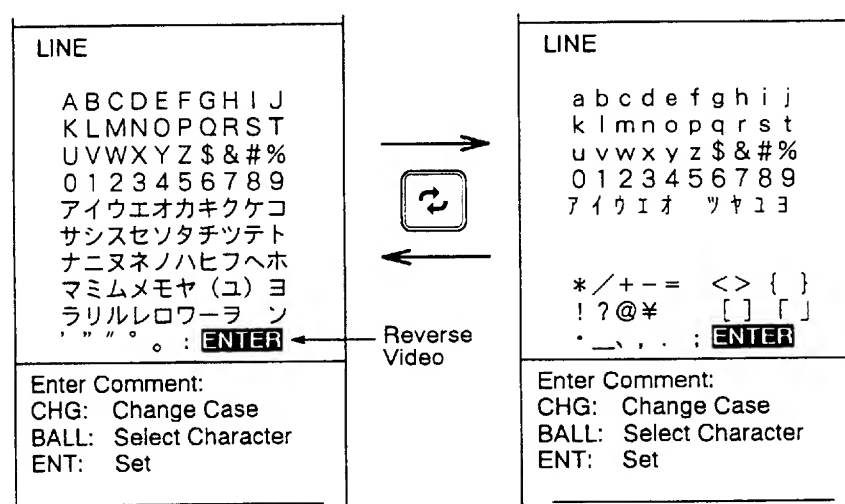

Figure 1-22 Characters available for comment
- 3) Press **ENT**. Your display should show a screen of upper case letters as shown in Figure 1-22. You can also use lower case letters in your comment. The **CHG** key serves to switch between upper and lower case letter sets.